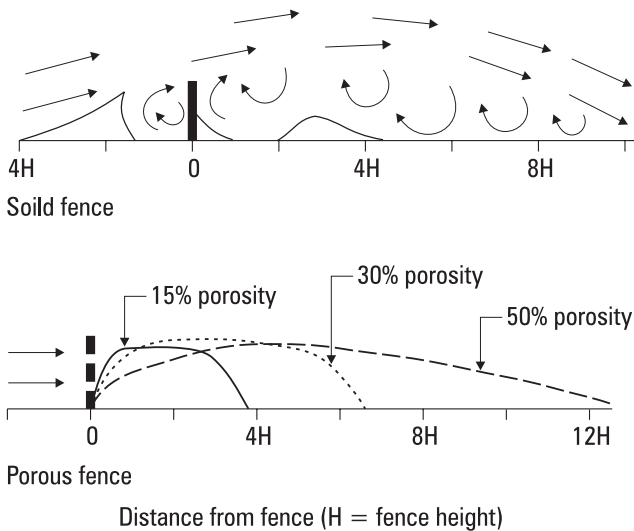

Figure 3. Snow drift patterns about solid and porous fences.
- Figure 3 shows wind turbulence about a solid fence, and snowdrift patterns about a porous fence. This demonstrates why solid walls should be avoided.